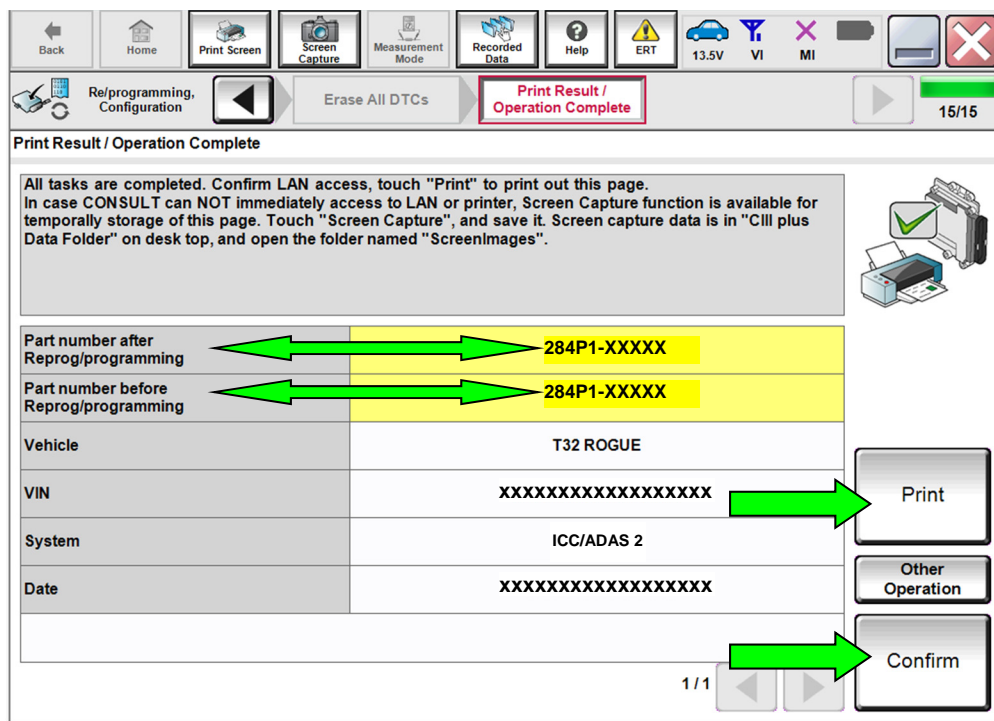

Figure 16
- When the entire reprogramming process is complete, the screen in Figure 16 will display.
27. Print a copy of this screen (Figure 16) and attach it to the repair order for warranty documentation.